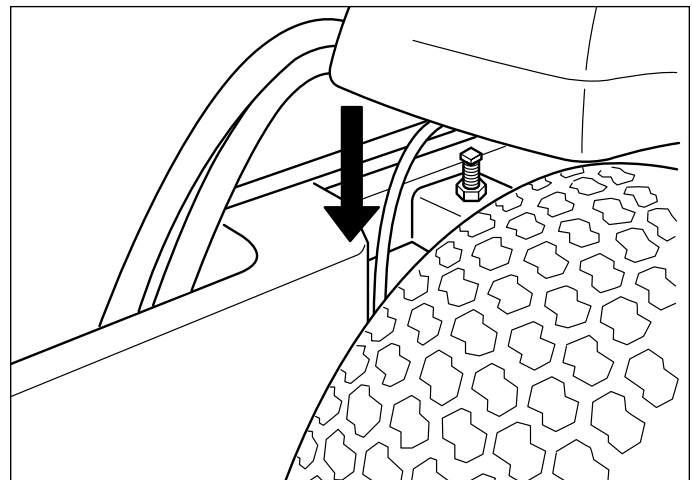

Figure 30. Rear Frame Measurement
2. The measurement to the top of the rear frame rails, at the widest point on the frame behind the drive tires should be 21-3/8" (54,3cm) for each side (see arrow in Figure 30).
4. After adjusting all four (4) springs, recheck the measurements and adjust if necessary.